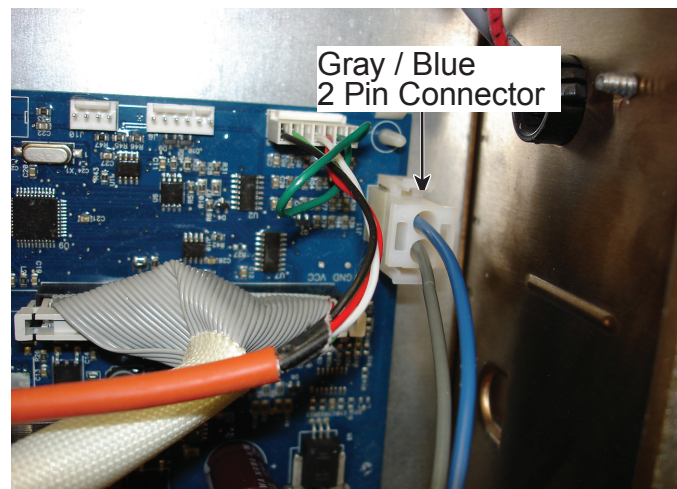

Figure 6
10. Plug 2 pin harness connector, gray blue end, into main board J11 connector (Figure 6).